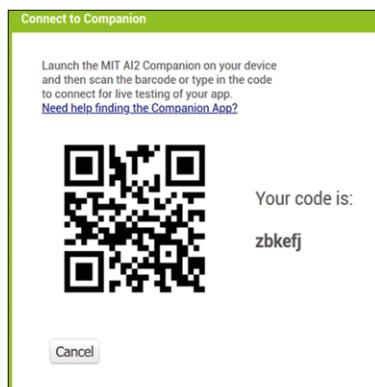

Figure 23.5: The QR code.
- A dialogue with a QR (quick response) code will be displayed on your PC screen as shown in Figure 23.5.